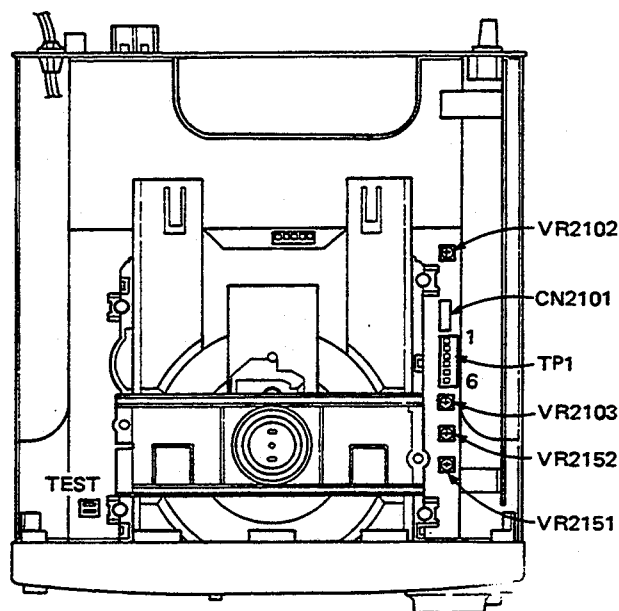

Fig. 6-7 Adjustment Locations
2. Short the test mode jumper wires. (See Fig. 6-7.)